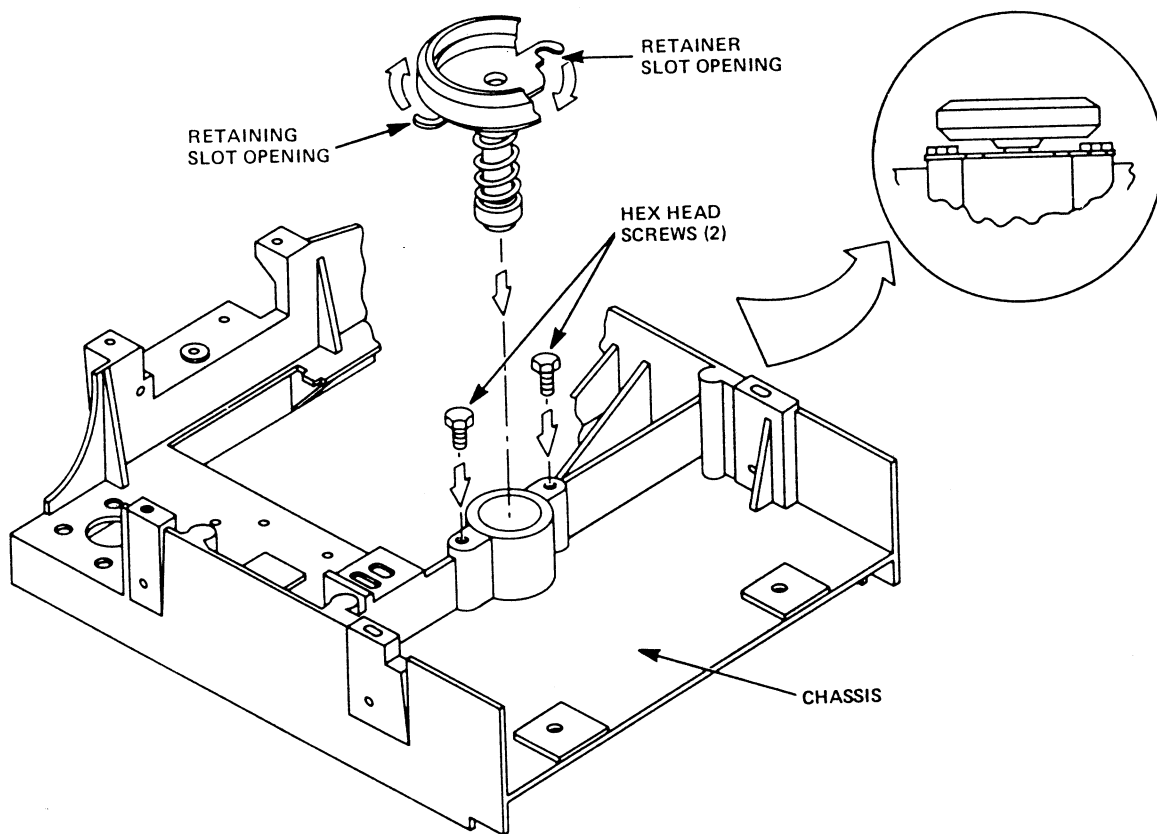

Figure 5-31
5.15.7 Using a one-quarter (1/4) inch wrench, loosen the two (2) hex head screws that attach the Spindle Assembly to the top of the chassis (see Figure 5-31).
5.15.8 Rotate the retainer counterclockwise until its slot openings no longer are held by the two (2) hex head screws (see Figure 5-31).
5.15.10 Insert the new Spindle Assembly carefully into its mounting hole at the top of the chassis (see Figure 5-31).
- 5.15.12 Using a one-quarter ( $\frac{1}{4}$ ) inch wrench, tighten the two (2) hex head screws that attach the bearing retainer to the chassis (see Figure 5-31).